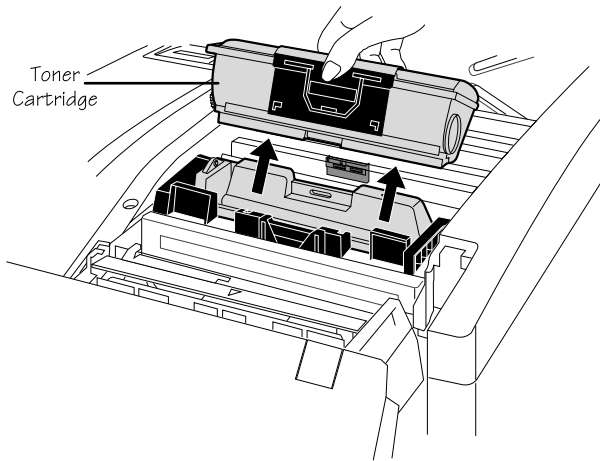

Fig. 6.1 Remove the Old Toner Cartridge
2. Remove the old toner cartridge by holding it across the center, squeezing the sides to loosen the pins on the back side from the developer cartridge notches. Then, lift the toner cartridge straight up and out of the printer (fig. 6.1), and dispose of it following safety laws and regulations.
2. Remove the toner cartridge by holding it across the center, squeezing the sides to loosen the pins on the back side from the developer cartridge notches (fig. 6.1). Then, lift the toner cartridge straight up and out of the printer.